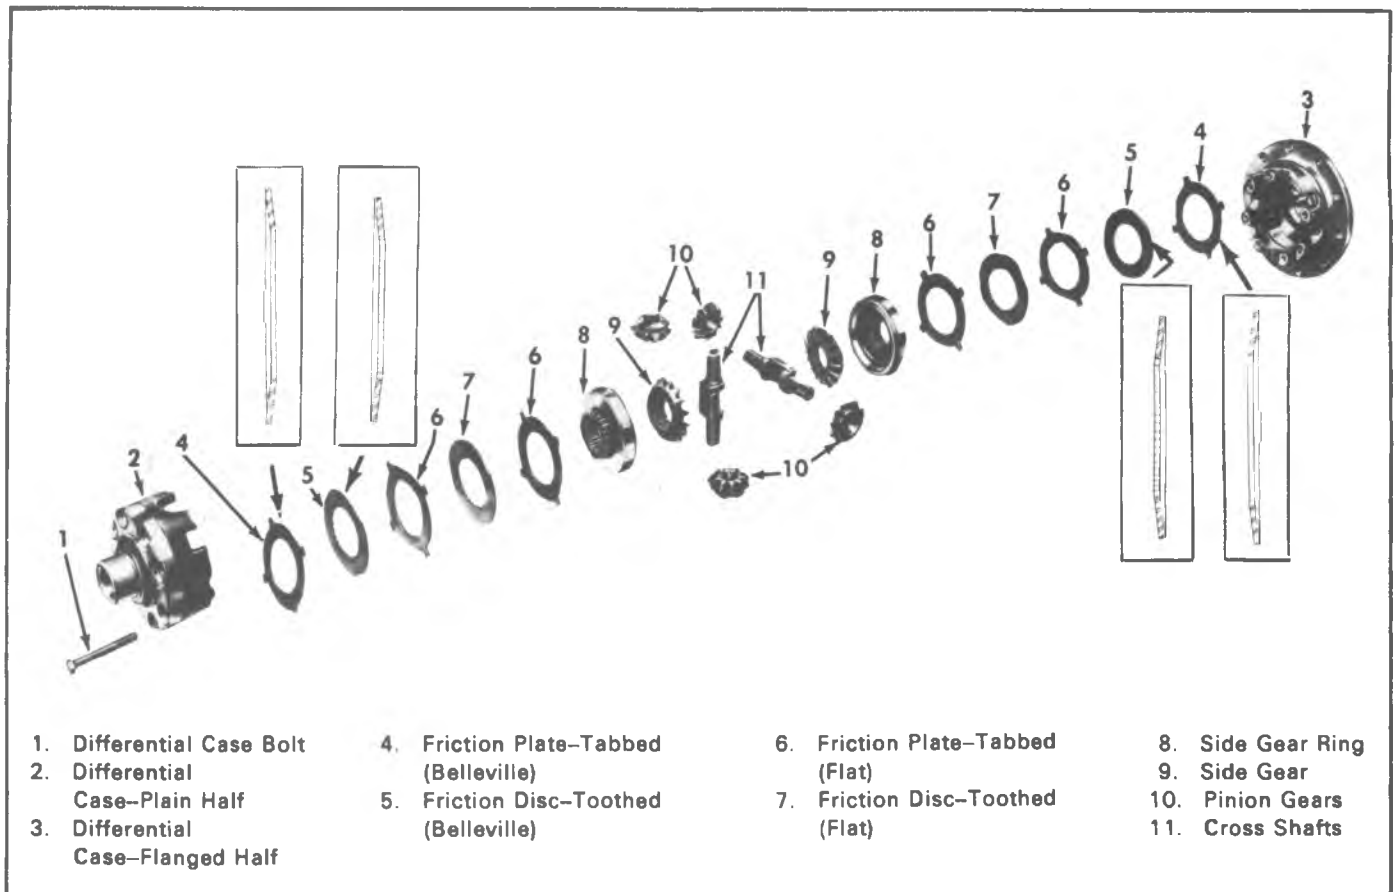

Fig. 22D--Power-Lok Differential
The Power-Lok differential shown in figure 22D is a unit which is installed as optional equipment in place of the standard differential. The locking differential permits the major driving force to be transmitted to the wheel with better traction. This means that the vehicle can be operated on ice, snow, sand or under other adverse conditions with a minimum amount of slippage through one wheel.
A series of clutch plates and dished (Belleville) friction plates on each side of differential side gears transmits drive from differential case to axle shafts. Carefully observe the order in which the plates are used, since they must be replaced in the same order. Refer to figure 22D.
1. Place tabbed Belleville friction plate (4) in flanged differential case, being extremely careful that convex (bulged) side is toward the side gear. See figure 22D.
2. Assemble remaining plates and discs to splines of side gear ring, being sure they are assembled in the same order of removal. The convex (bulged) side of the Belleville friction disc (5) should be toward the side gear and it should nest into the Belleville friction plate (4).
5. In the order listed install the following: (1) side gear, (2) side gear ring, (3) flat plate with tabs, (4) flat disc with teeth, (5) flat plate with tabs, (6) Belleville disc with convex (bulged) side up, or toward side gear, (7) Belleville plate, with convex (bulged) side up, or side toward gear.